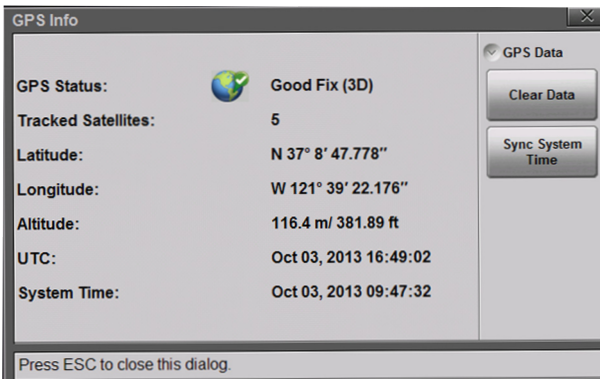

Figure 2-9. GPS Info
3. GPS icon. Press to view the current GPS information (Figure 2-9) obtained from an external USB-based GPS module. The icon indicates the status of the GPS module and location fix. After capturing a good fix, location data are saved with measurements (Figure 2-10) and screen captures.